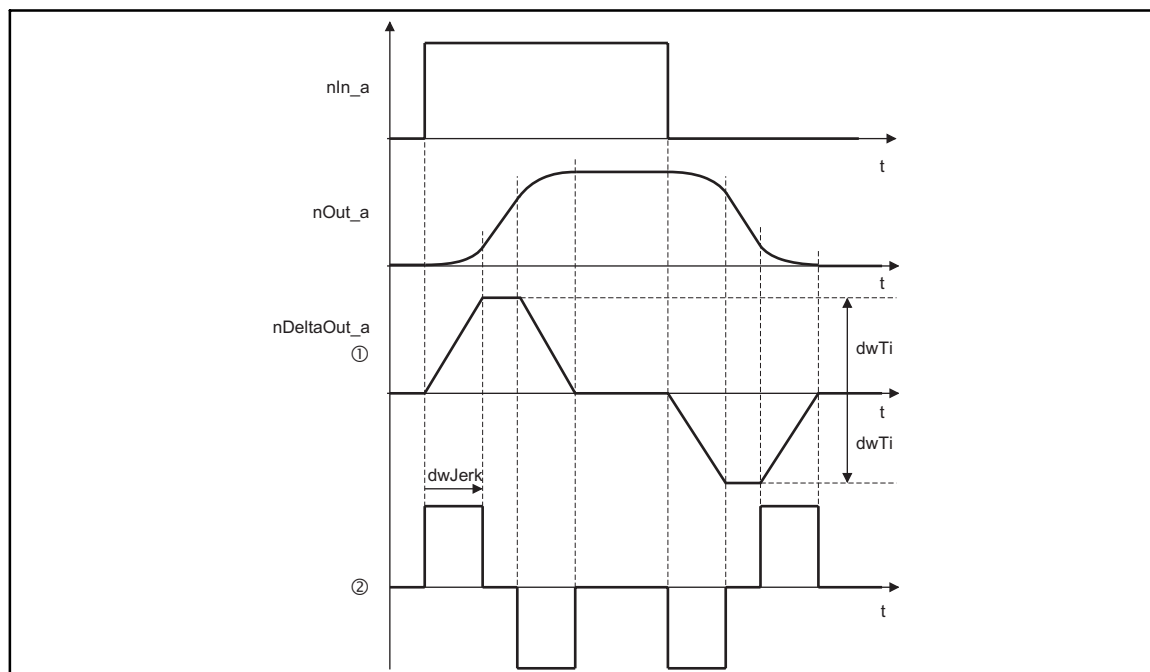

Fig. 2-31
- The jerk is entered in [s] until the ramp generator operates with maximum acceleration (see Fig. 2-31).